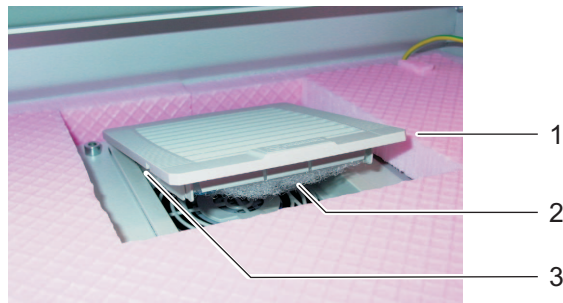

Fig. 5-7: Exchanging the upper filter mat
- 3** Open the ventilation grid with the aid of a screwdriver by levering it off and exchange the filter mat. See Fig. 5-7, 81.